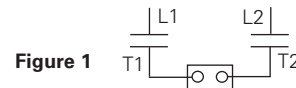

Figure 1
1.5 HP @ 120VAC, 2 poles making/breaking (see Fig. 1)